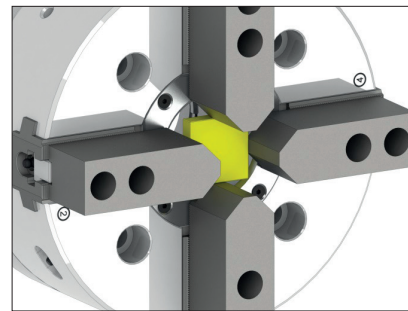

Fig. 2
1. An accurate square steel sheet [Fig. 1] is to be clamped by the soft jaws [Fig. 2].